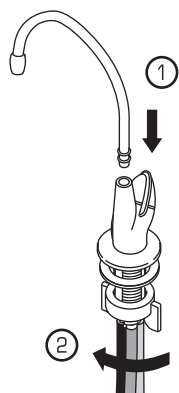

Fig. 19
2. **Press** Faucet spout into the main body **1**. **Unscrew** to remove the wing nut while keeping the foam gasket against the faucet body **2** (Fig. 19).